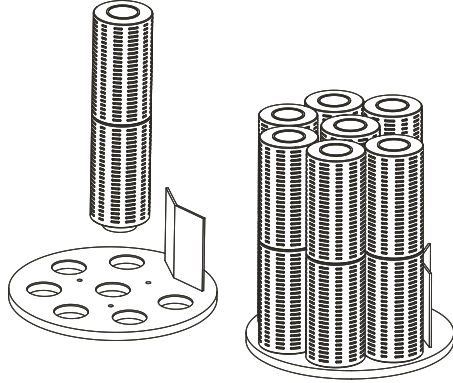

Figure 17.
- Wiggle and press the cartridge with a little pressure because the cartridge O-ring is designed to fit tightly to ensure a better seal, Figure 17.